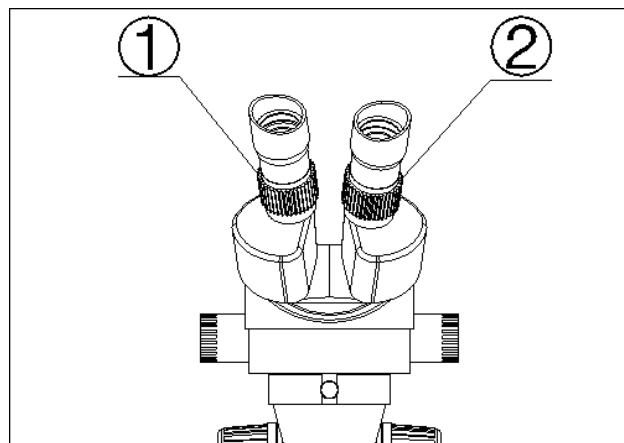

Fig. 3
- 4.5) Observe the specimen through the right eyepiece and make the image clear by turning the right diopter adjusting ring.(Fig.3)
- 4.7) Do the step (4) and make the image clear which is observed through the left eyepiece by turning the left diopter adjusting ring. (Fig. 3)